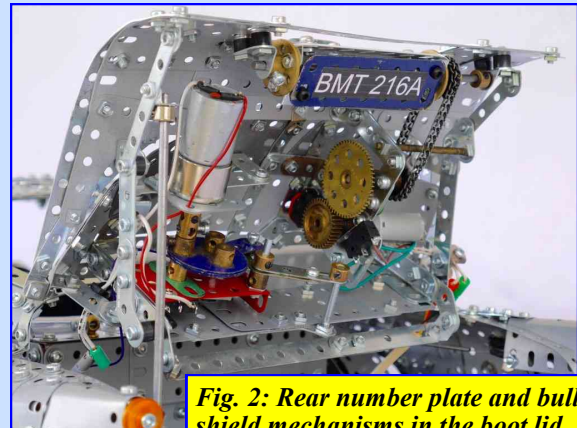

Fig. 2: Rear number plate and bullet shield mechanisms in the boot lid.
2. Rear Bullet Shield: This device was designed to rise out of the boot-lid to protect the driver by shading the rear window with a quarter inch thick steel shield. In reality the shield was made from duralumin and wouldn't stop a high speed bullet if it tried. The shield ran in near vertical runners welded to the inside of the boot-lid and was initially hydraulically powered but finally by an electric window motor and its associated levers. In the model (Fig. 2) I used another geared motor driving a Triple Throw Eccentric (on 1" throw). This was linked to the Flexible Plate shield by a Bell Crank with Boss with a 1½" slotted Narrow Strip on its free end. Thus the shield can be raised about 1½" out of the boot. Again micro-switches were wired in to start and stop the shield at its down and up positions. It took a few design permutations to get this to work well without the shield twisting and jamming half way up its runners (pairs of 5-hole Angle Girders). The top of the shield should have the curved profile of the boot so it is near invisible when retracted but this proved impossible without cutting the two 4½" by 2½" Flexible Plates, as there was no space for nuts and bolts to pass through the narrow slot made in the boot-lid. So the shield rests about a quarter of an inch above the boot-lid but you don't really notice it with all the bolt heads holding the multitude of plates of the hemispherical boot hump. The raised bullet shield is seen in Fig. 8.